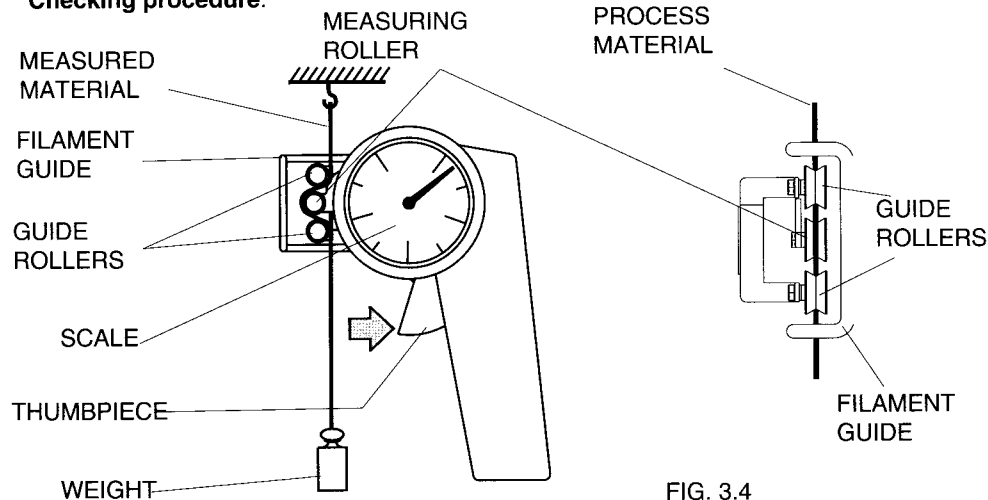

FIG. 3.4
- Suspend a known WEIGHT that corresponds to the tension to be measured (pay attention to the correct unit of measure) from the PROCESS MATERIAL, vertically, as shown in fig. 3.4. (Always use a fresh portion of the material to be measured).